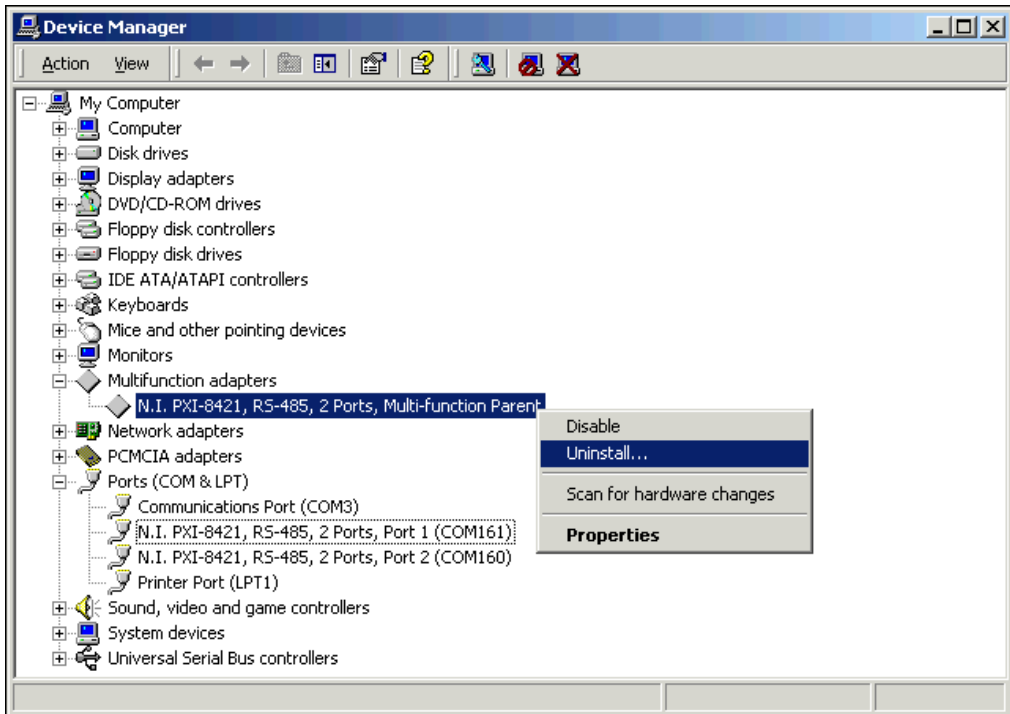

Figure C-4. Selecting an Interface to Uninstall
4. From the **Multi-function adapters** list, right-click the National Instruments interface that you want to uninstall, as shown in Figure C-4.